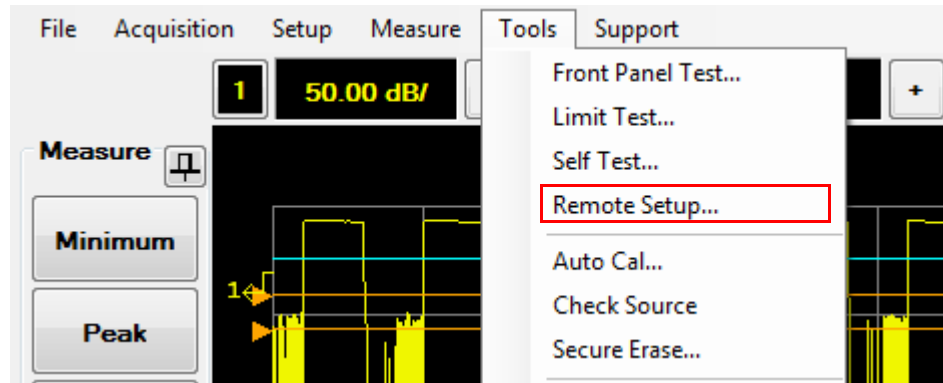

Figure 2-154 Remote Setup... selection in the Tools menu
- 1 Select **Tools > Remote Setup...** on the toolbar as shown in Figure 2-154.